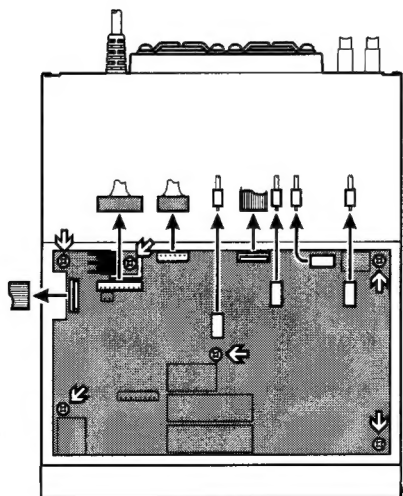

Figure 3
3. Refer to Figure 3, and remove the six screws which affix the circuit board to the chassis. Remove the four coaxial cables shown, as well as the two flat cables, so as to allow the board to be folded forward.
6. Fold the circuit board back into its normal position. Replace the six mounting screws, along with the four coaxial cables and two flat cables. Be careful to observe the proper color-coding on the coaxial cables, per Figure 3.